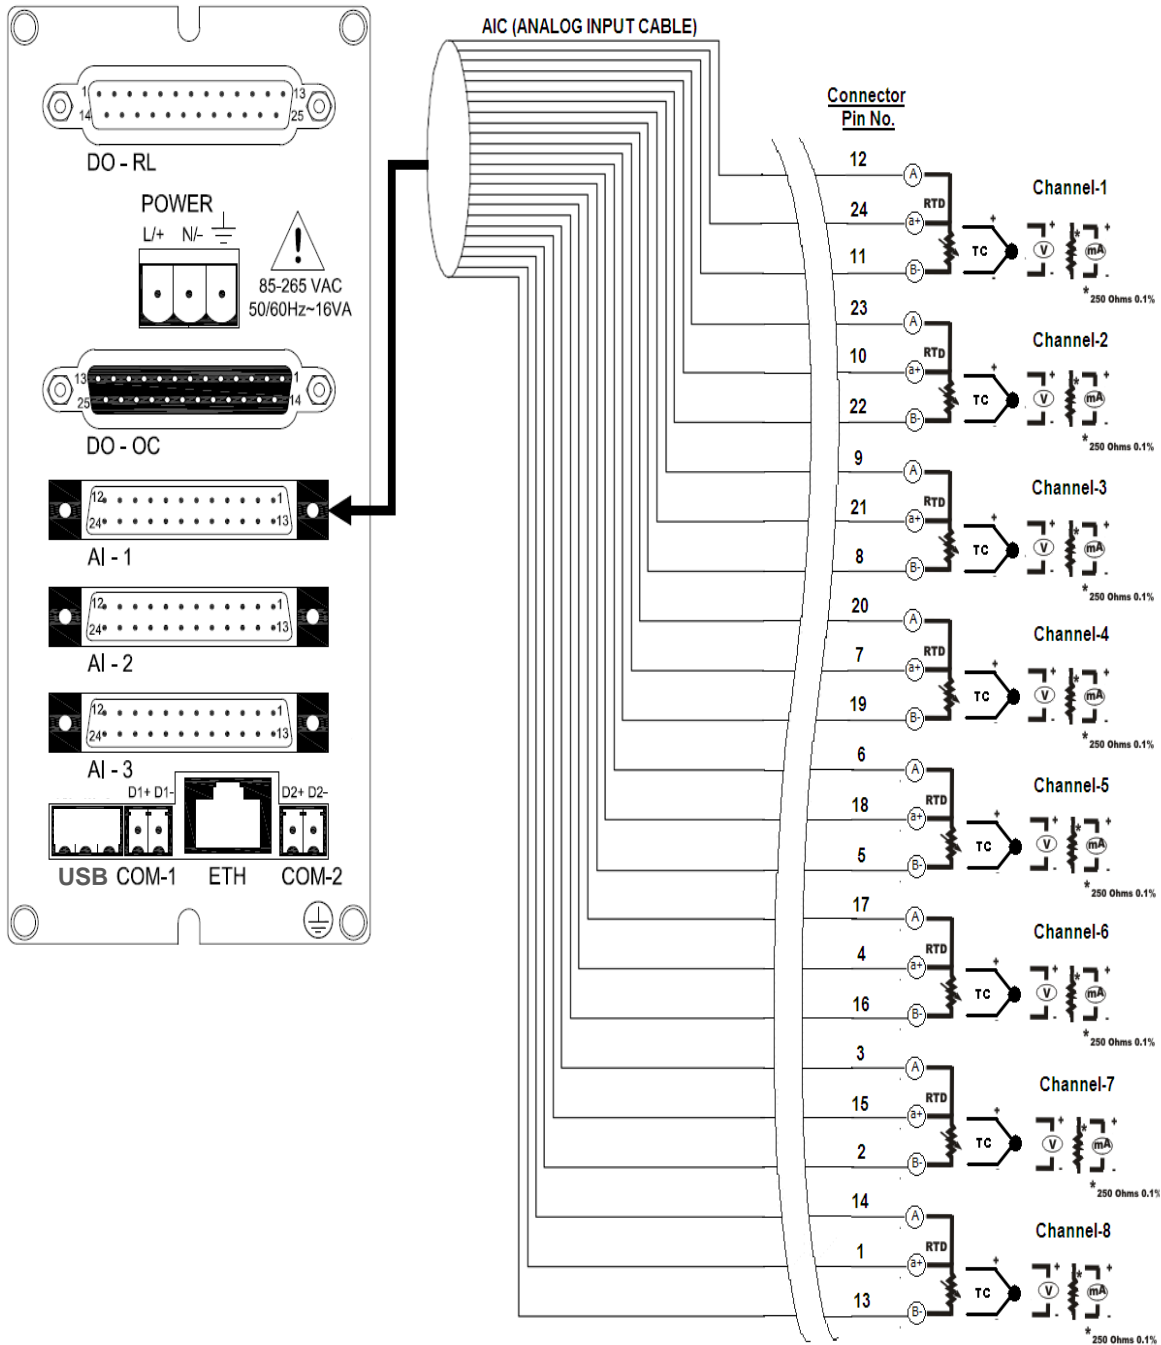

Figure 9 Analog Input Cable Connection
**Note:** Above figure 9 is with 24 pin Analog Input Cable Connector.